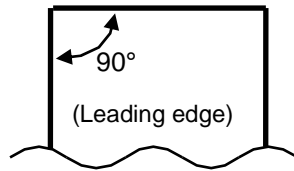

Figure 8-2 Leading Edge of the Paper Roll
- Cut the leading edge of the paper roll straight across as the Figure 8-2 shown.